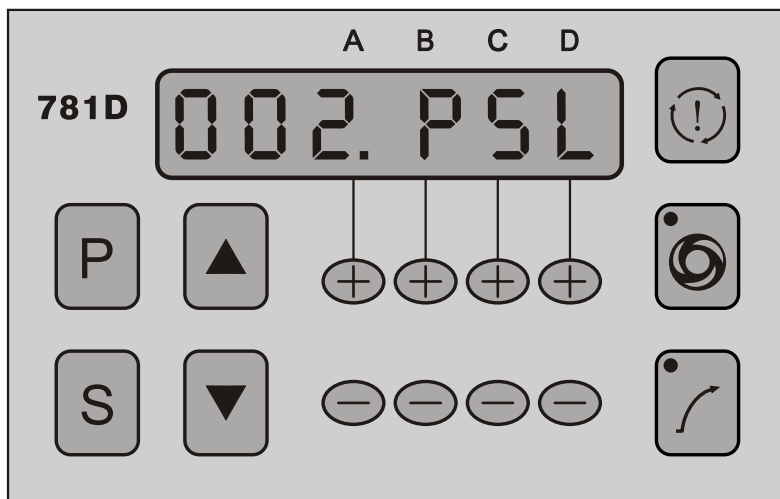

Figure 5-4, the acceleration curve adjustment% (user parameters 002.PSL) parameter number selection screen
2) Parameters Step 4.1 "How to Enter User parameters A zone" method, enter the user parameter A zone, use the or key to select the parameter number to "002.PSL", shown in Figure 5-4.